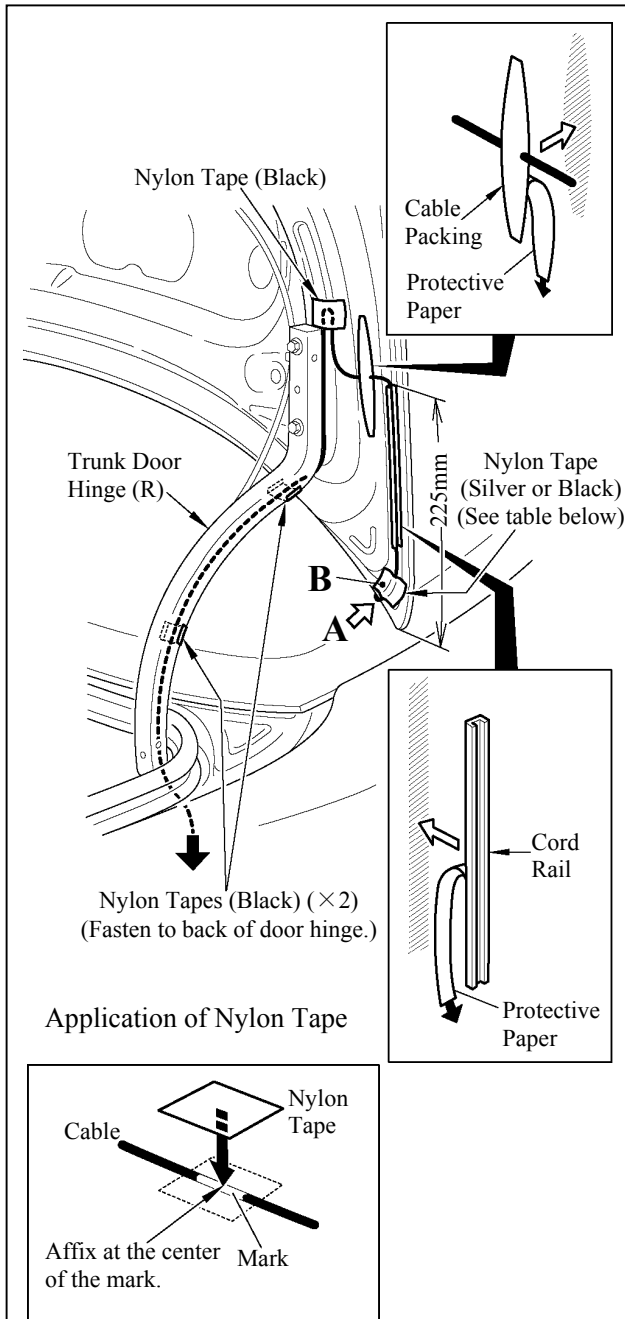

Fig. 3-4 Nylon Tape B Color Correlation Chart
(e) Wire the antenna cable from the trunk door to the door hinge (Fig. 3-4).
(1) Carefully wipe away any dirt or oil from surfaces where cord rails, nylon tape and cable packing are to be attached in the following steps using VDC approved cleaner.
(2) Attach a cord rail at the location on the rear side of the door shown in the figure (Fig. 3-4).
(3) Route the antenna cable through the cord rail and secure it with nylon tape (B in the figure) (Fig. 3-4).
**NOTE :** Use tape for nylon tape B in the figure of a color that matches the body color by referring to the table in the figure (Fig. 3-4).
(4) Stick cable packing on the rear side of the door in the position shown in the figure (Fig. 3-4).
(5) As shown in the figure (Fig 3-4), route the cable in the door hinge and secure it with black nylon tape.